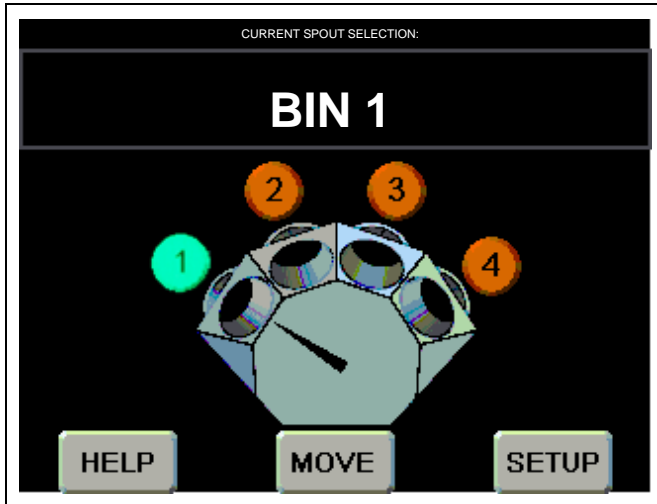
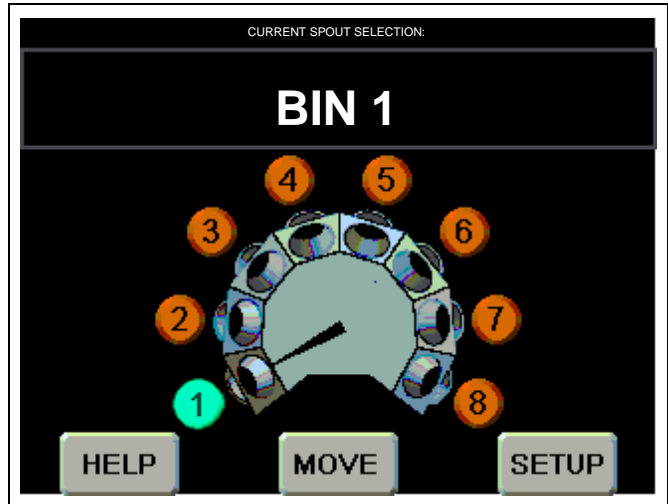
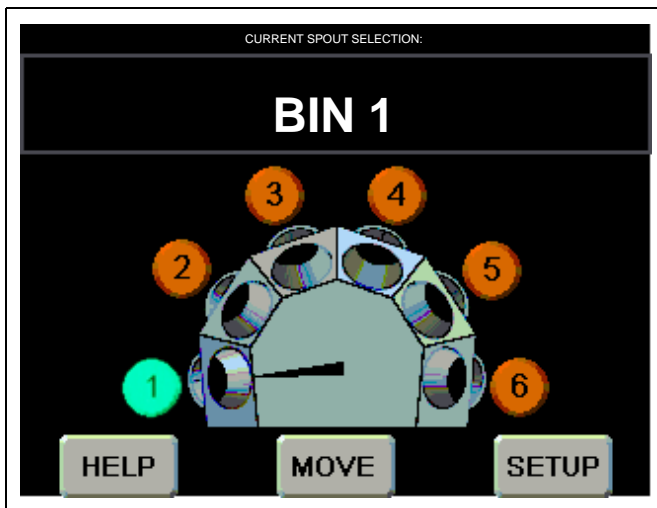
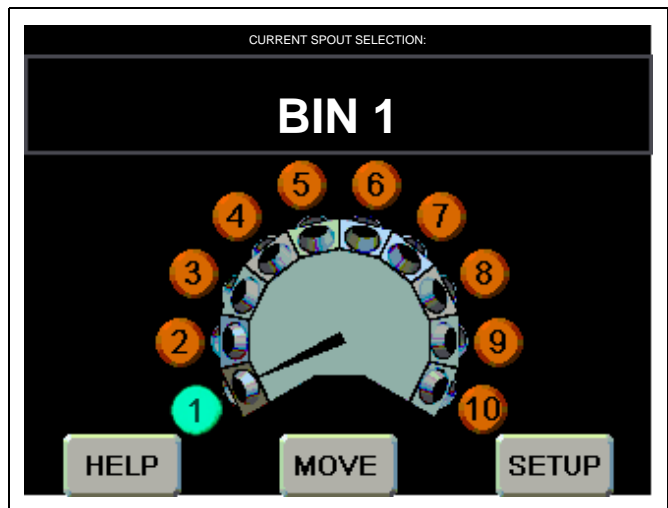

Figure 4C Four (4) Spout Main Screen
Figure 4E Eight (8) Spout Main Screen
Figure 4D Six (6) Spout Main Screen
Figure 4F Ten (10) Spout Main Screen
Depending on the number of spouts in the current configuration, one of the following screens will be displayed. (See Figure 4C, Figure 4D, Figure 4E and Figure 4F.) The display depicts a view of your distributor as it would appear if looking down from above, with lower spout numbers to the left and higher spout numbers to the right. The name of the current spout is indicated at the top of the screen and is indicated in the graphic with a green circle. At the bottom of the screen are three (3) buttons to navigate to either the Help Menu, Move Position Screen or Setup Menu.